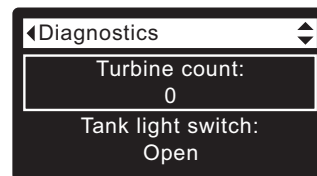

FIG. 89
2. Press the DOWN (▼) button to scroll through the list until **Turbine Count** is displayed (See Figure 89).